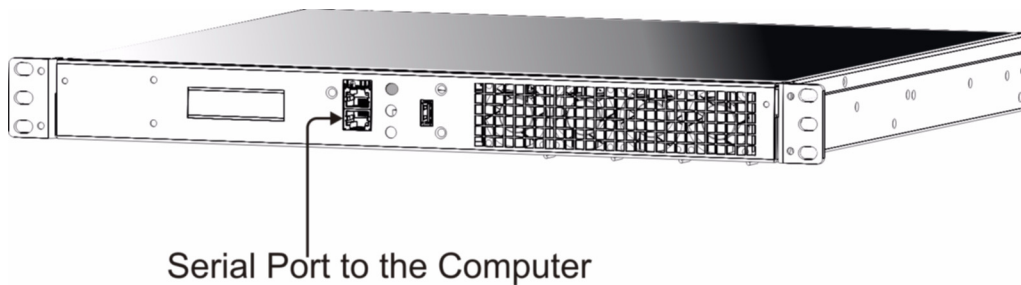

Figure 3.1 Computer to Tmedia Unit Serial Port Connection
1. Connect a CAT-5 RJ-45 (male-male) cable between the com port of your computer and the serial port of the Tmedia unit as shown in figure 3.1 on page 26. See table 3.1 on page 26 for a RJ-45 pinout description.